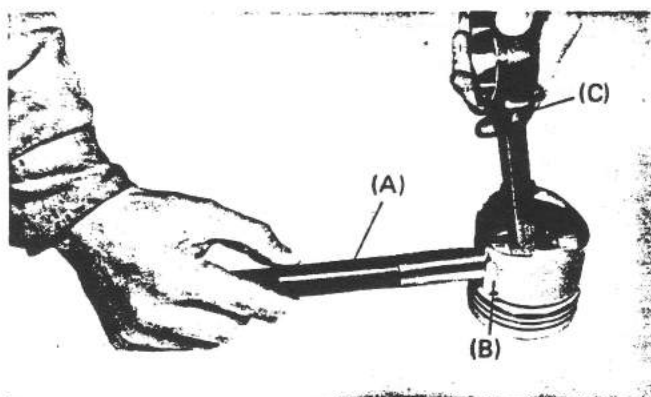

Fig. 104
connecting rod as shown in Fig. 104.
- c. Fit a clip to the clip groove at the other end of the piston as shown in Fig. 104.